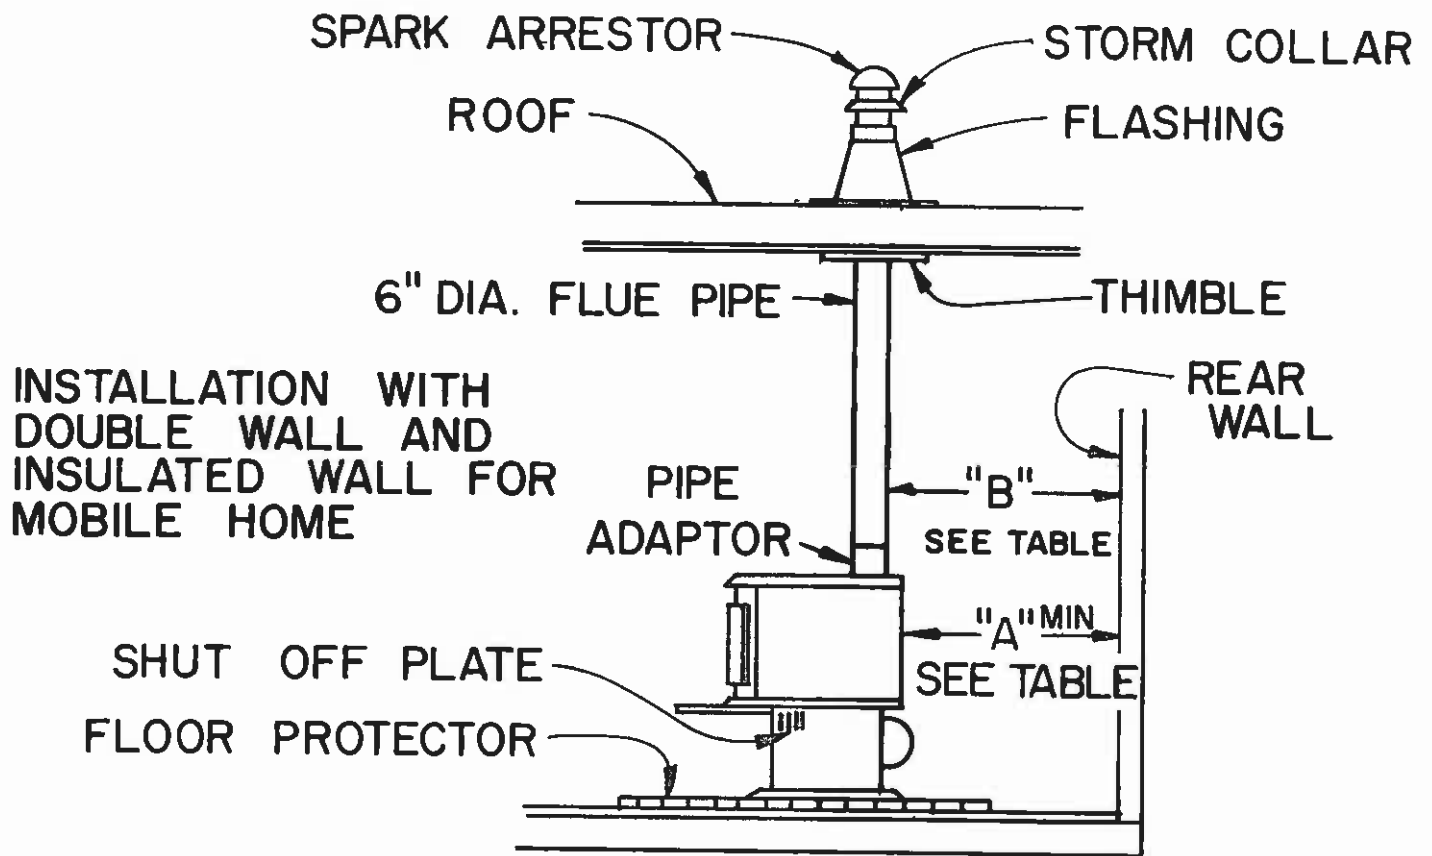

FIGURE 3
4. Always maintain a clearance of 12 inches from side of stove to combustible wall or material. In residential with single wall chimney connector, the rear of the stove may be located 10 inches from combustible wall or material. Connector pipe distance of 18 inches to the ceiling must still be maintained. In residential and mobile home with insulated chimney connector (Metalbestos, Jackes-Evens (GWS) or Security Chimney) rear of stove may be 6 inches from combustible wall or material. In mobile home with double wall chimney connector (Dura-vent) rear of stove may be 9 inches from combustible wall or material. (See Figure 3 & 4)
MOBILE HOME CHIMNEY: The chimney must comply with the standard for chimneys, factory built, residential type and building heating appliance, UL103. The chimney should extend at least 3 feet above the part of the roof that it passes through. Top of chimney should be 2 ft. above highest part of roof within 10 ft. of chimney. The chimney should be removable at or below an elevation of 13 1/2 feet above ground level. A spark arrester should be attached to the top of the chimney. (See Figure 3).
MOBILE HOME COMBUSTION AIR INLET: Combustion air must be drawn from the outside through the floor and attach to the pedestal. Adjust shut off plates located on sides of pedestal to closed position and tighten screws. (See Figures 3 & 7).